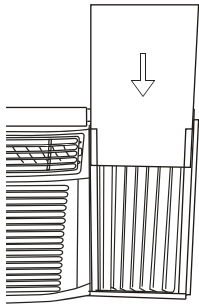

Fig.13
Step 3. Slide the R1 insulation panel into the side curtain, the side with pattern should facing the indoor side.(Fig.13).